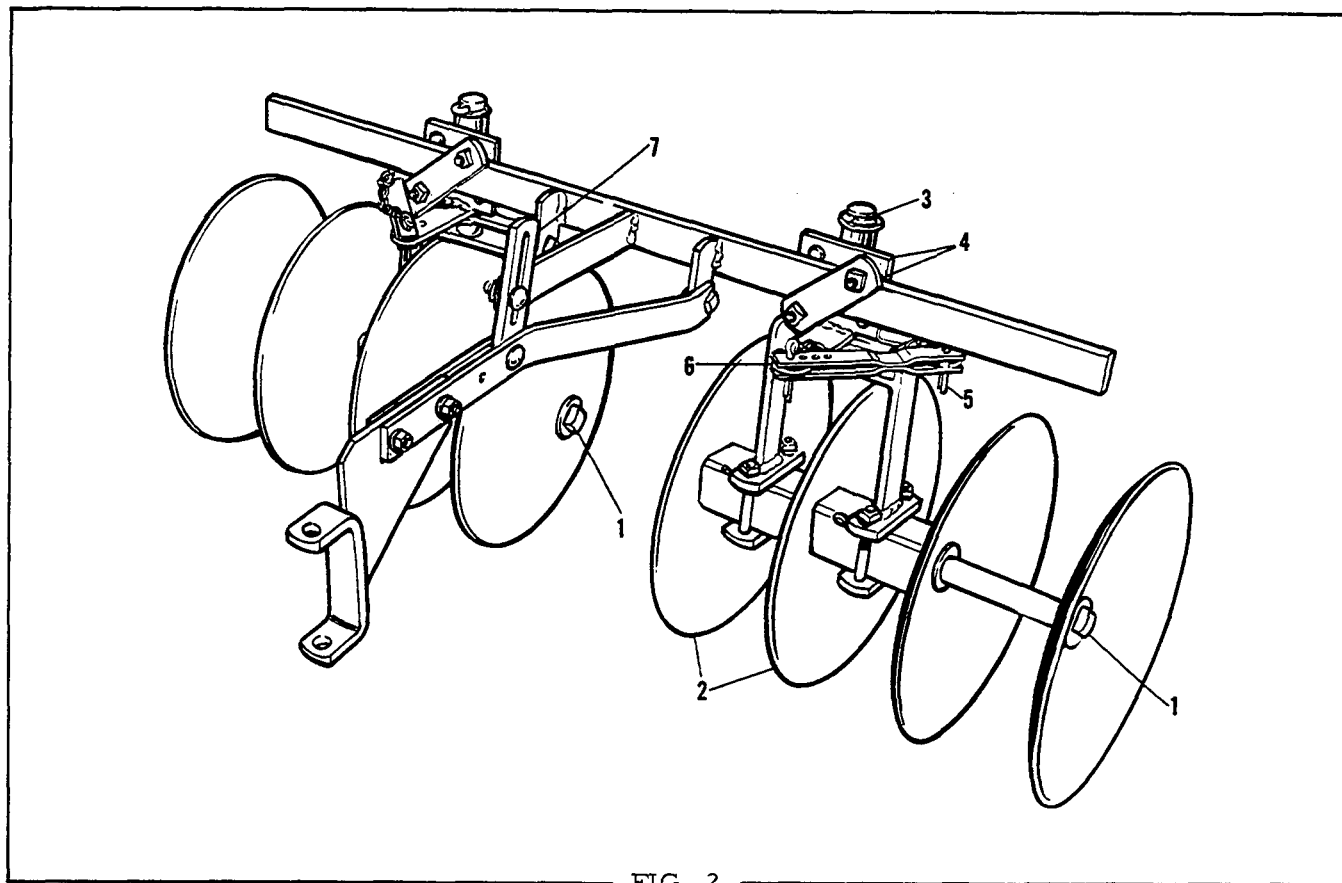

FIG. 2
ASSEMBLY (Fig. 2)
2. Clamp the disc gangs in place on the tool bar (3) using clamps (4), carriage bolts (5) and lockwashers as shown in Fig. 2.
To attach the disc harrow to the tractor, it will first be necessary to attach the clevis assembly to the tractor tow assembly using the pivot pin and hair pin cotters. See Fig. 2. Mount the lift pin in place in the tube of the tractor lift and fasten with pin and hair pin cotter.